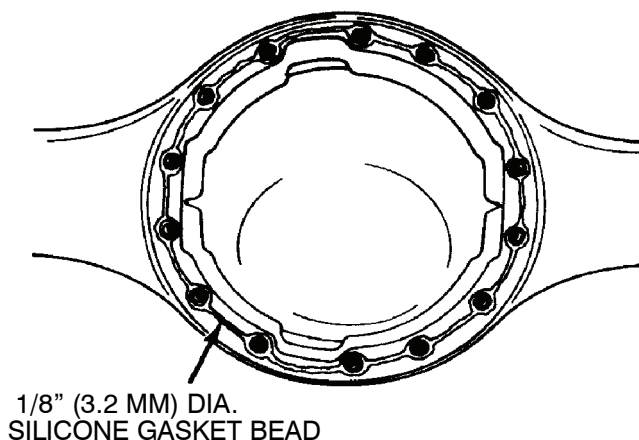

Figure 101.
- (1) Clean the inside of the axle housing and the mounting surface where the carrier fastens. Use a cleaning solvent and rags to remove dirt. Blow dry the cleaned areas with air.
- (2) Inspect the axle housing for damage. Repair or replace the axle housing if necessary.
- (3) Check for loose studs in the mounting surface of the housing where the carrier fastens. Remove and clean any studs that are loose.
- (4) Apply liquid adhesive to the threaded holes. Install the studs in the axle housing. Tighten the studs to 150–230 lb–ft (203–312 Nm).
- (5) Apply silicone gasket material to the mounting surface of the housing where the carrier fastens. Figure 101.